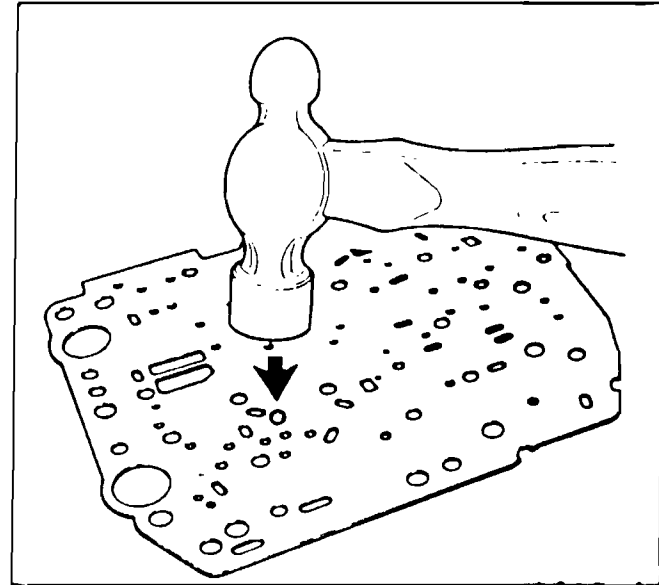
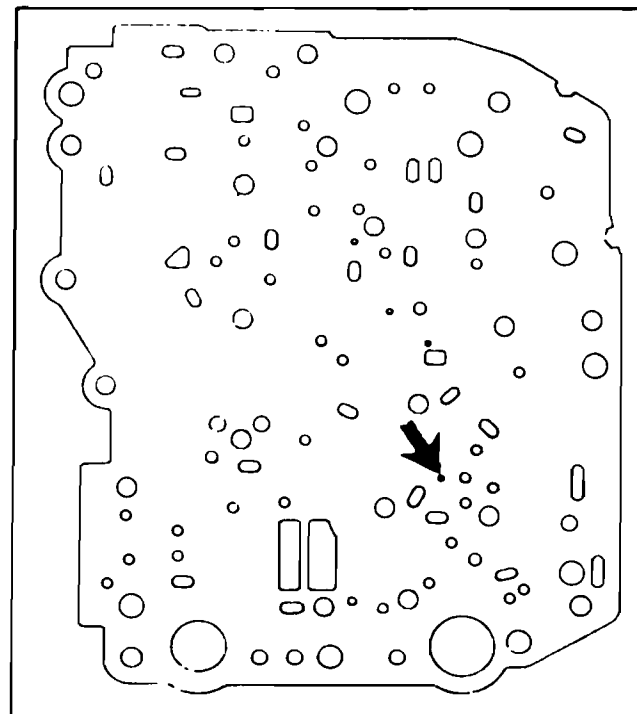

Figure 18
Figure 19
3. Rework the separator plate as follows: Place the separator plate on a hard flat surface such as a steel block. Using a steel ball approximately 1/4" diameter, rework hole #76 (Figure 18) by placing the ball in the hole and striking the ball with a hammer until the hole is reduced to a diameter of slightly less than .040 where a #60 drill will not quite pass through the hole. Then size the hole to .040 by drilling with a #60 drill. Clean-up metal burrs from the hole after the operation. (Figure 19).